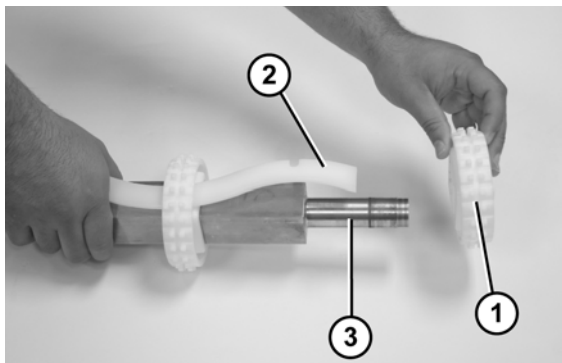

Figure 62
10. Slide the sprockets (Figure 62, item 1) and the sprocket alignment bar (Figure 62, item 2) off the drive spindle (Figure 62, item 3).